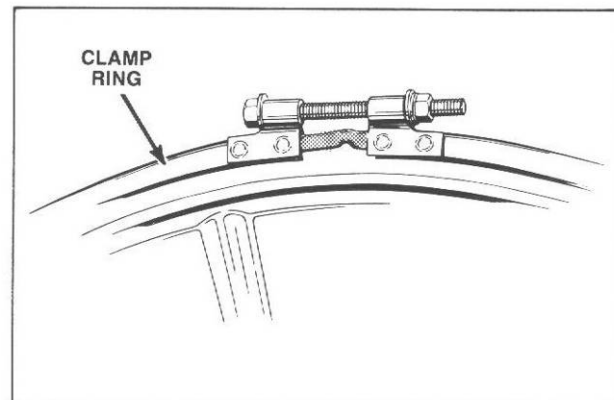

Figure 37
- o. Remove clamp screw, nut, lockwasher and washers holding clamp ring to rear tub head assembly, *Figure 37*.